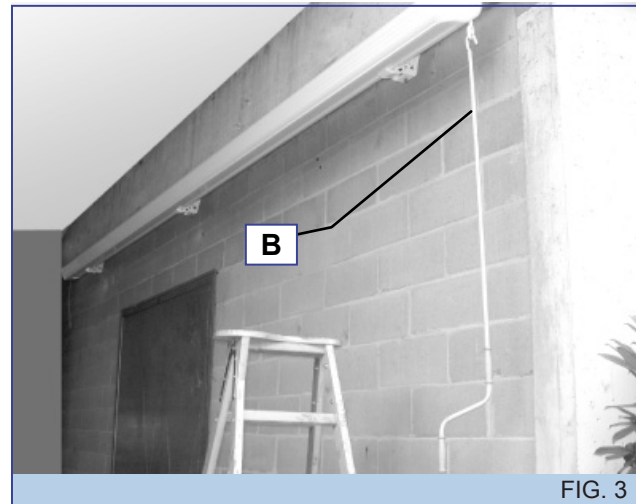

FIG. 3
2) Using the level (Fig. 3 - B), positioned near the tip of the arm, check that the front bar is perfectly horizontal. If not, adjust the adjustable shoulder that corresponds to the arm that is not level, following the procedure described previously.
4) If not, tighten the grub screw (C) to raise the elbow of the arm, and unscrew to lower it.